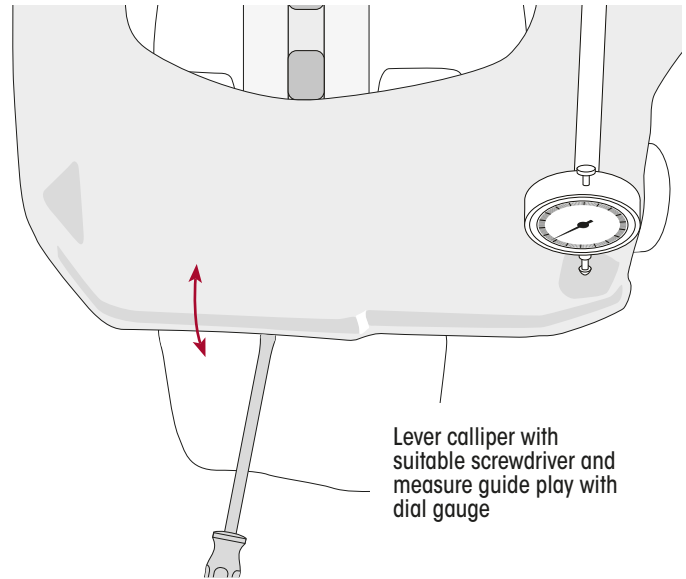

Figure 133: Knorr-Bremse Guide Inspection
2. Attach dial indicator to carrier on the short guide side of the calliper. Mount the gauge so that the measuring pin touches casting tag on the calliper and set to zero. Refer Figure 133.
3. Lever the calliper away from the carrier using a suitable screwdriver and read movement. The free play should not be more than 2 mm (0.080"). Refer Figure 133.